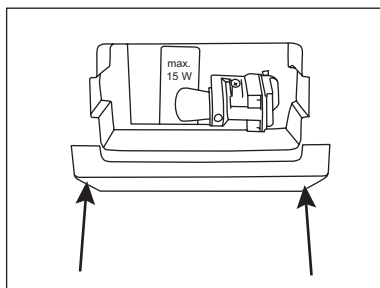

fig. 9
2. Remove the lamp cover by pressing its upper edge downwards to release it from the two clips (fig. 9).